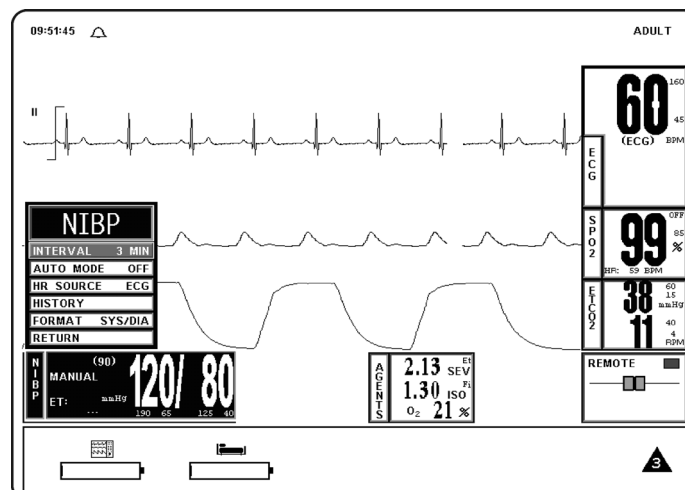

Figure 4-7. The NIBP Menu
4.2.4 The NIBP Menu. Selecting the **NIBP** Menu-Select Icon will bring up the **NIBP** Menu (See Figure 4-7). This menu provides the operator with the ability to switch the Automatic Mode On and OFF, set the automatic reading interval, set the Heart Rate source and bring up a Tabular Chart containing a History of the NIBP and SpO2 determinations. *This menu has a time-out feature. If no action is taken for approximately 60 seconds, the monitor will automatically return to the Normal Screen.*